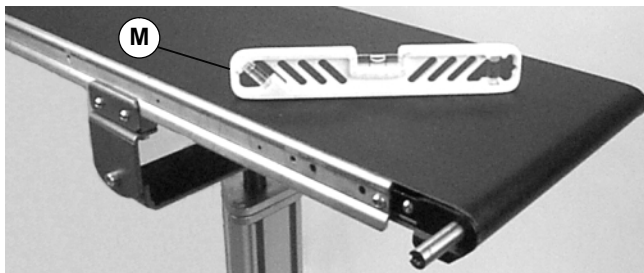

Figure 3
**NOTE:** Conveyor **MUST** be mounted straight, flat and level within confines of conveyor. Use a level (M of Figure 3) for set-up.